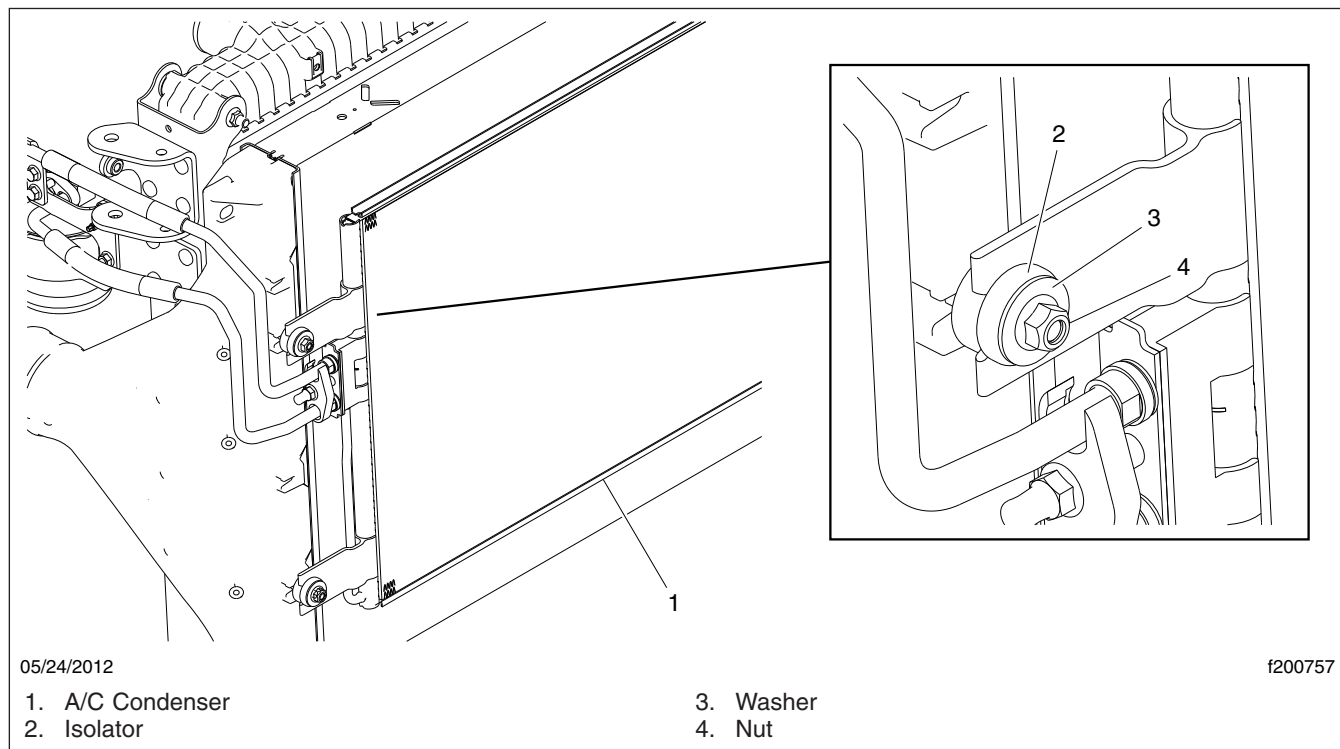

Fig. 3, A/C Condenser Installation
- 12.2 Unbolt the A/C condenser from the CAC. See Fig. 3.
39.1 Move the condenser into position and secure it temporarily. See Fig. 3.